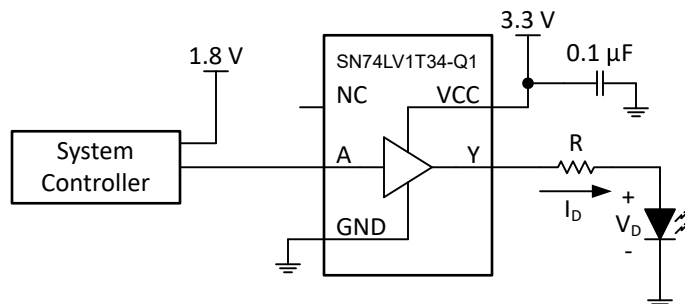

Figure 8-1. Typical Application Block Diagram
Figure 8-1 shows how the SN74LV1T34-Q1 is used to up-translate a 1.8-V signal to 3.3 V to drive an LED in this application. The SN74LV1T34-Q1 does not limit the output current, so an added output resistor is used to provide the appropriate current limiting. The resistor value (R) should be determined by the LED's forward voltage (V_D) and the desired forward current through the LED (I_D) using this equation: $R = (V_{CC} - V_D)/I_D$.